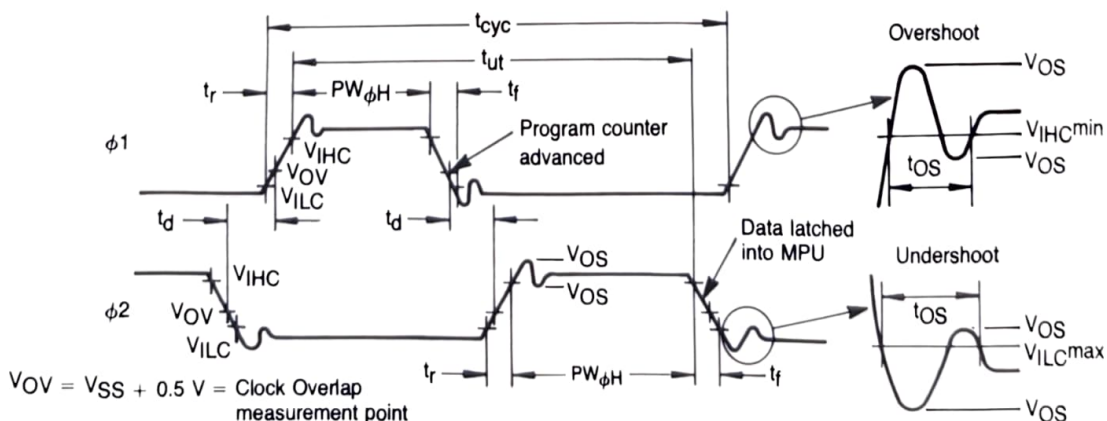

FIGURE 2-3. MPU Clock Waveforms
1.2.3.1 Clock Operation. The MPU requires two symmetrical non-overlapping clocks. This is accomplished by generating two separate clock phases: ϕ_1 and ϕ_2 . In the Educator II, the clock frequency is approximately 625 KHz. Figure 2-3 shows the relationship of each of these clock phases.